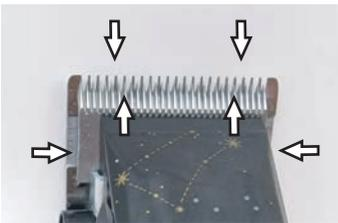

Fig. 7
A thin layer of lubricating oil between the upper and lower blades is essential for a good clipping result and to increase the service life of the clipper and the clipper blade (Fig. 7).
- ▶ Lubricate the blades sufficiently when clipping (at least every 15 minutes) to prevent them from becoming dry (Fig. 7).